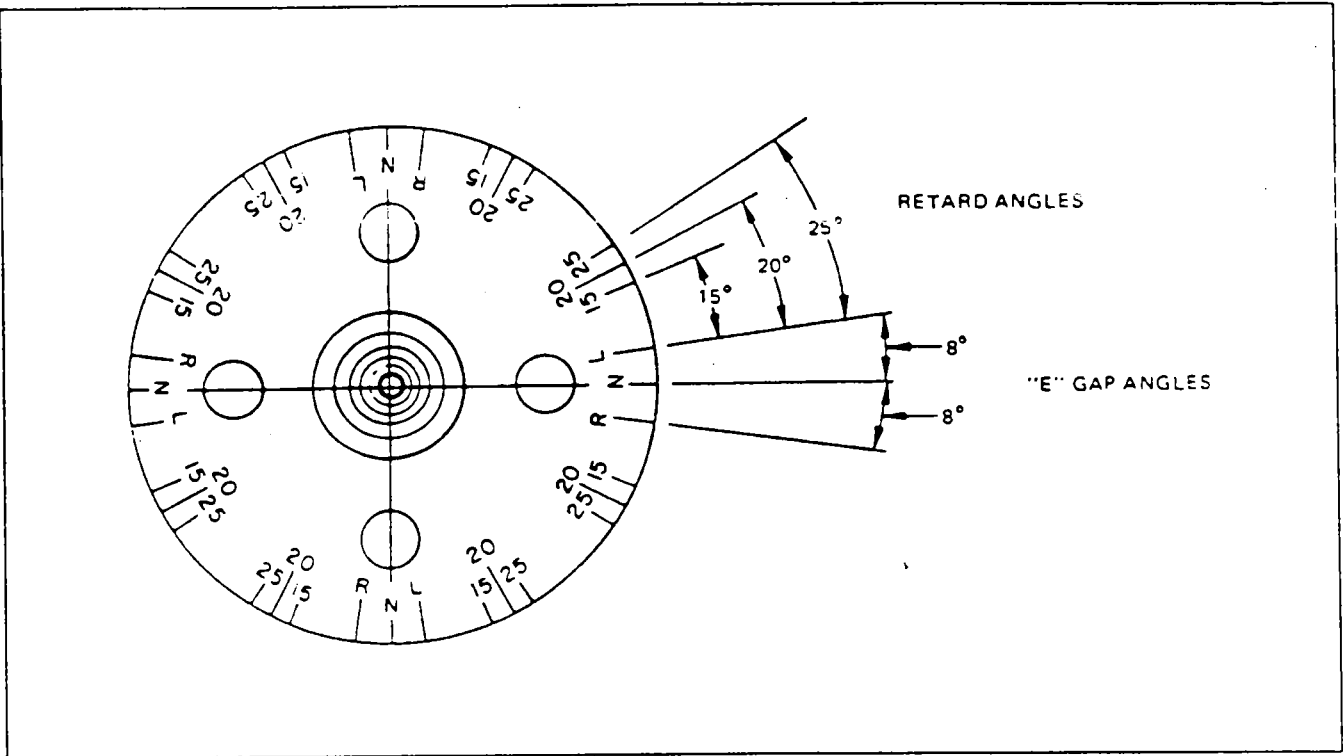

Figure 74-5. Timing Marks on Magneto Rotor
2. The magneto incorporates a built-in pointer and a degree wheel with sufficient reference to assist the mechanic in magneto timing procedures. Printed upon the rotating magnet are marks to indicate magneto neutral and magneto 'E' gap (8°). (Refer to Figure 74-5.) Also included are retard angle references of 15.20 and 25 degrees. These marks are set up for either clockwise (R) or counter-clockwise (L) rotation of the magneto as viewed from the magneto drive end. The timing tooth of the large distributor gear is marked with red paint. (Refer to Figure 74-6.)